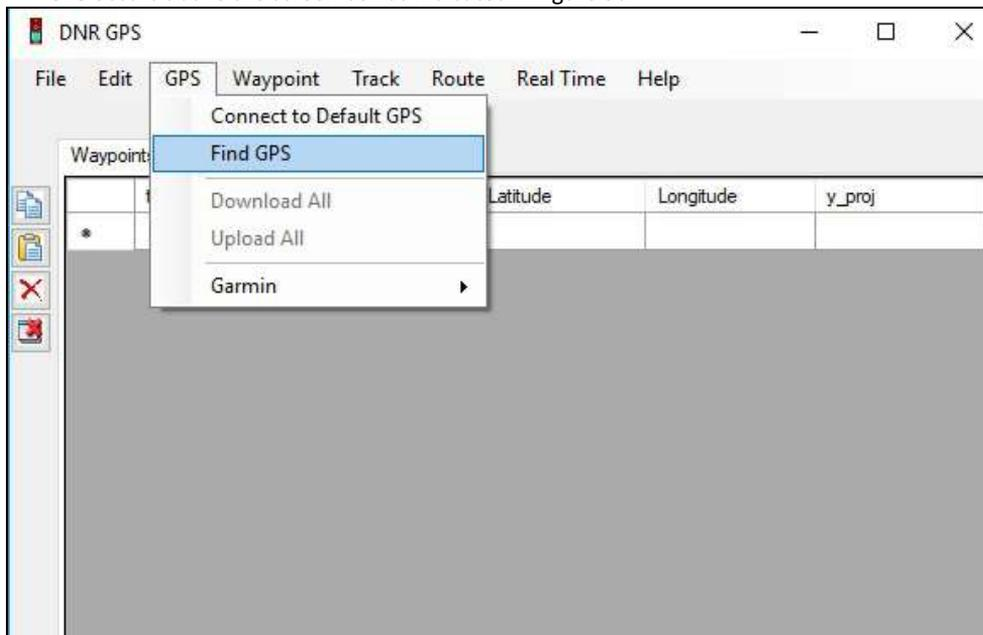

Figure 3c
c) Now connect your GPS and find GPS from the top menu. It will take some time to find your GPS and name of GPS occurs above the screen box as indicated in figure 3c.